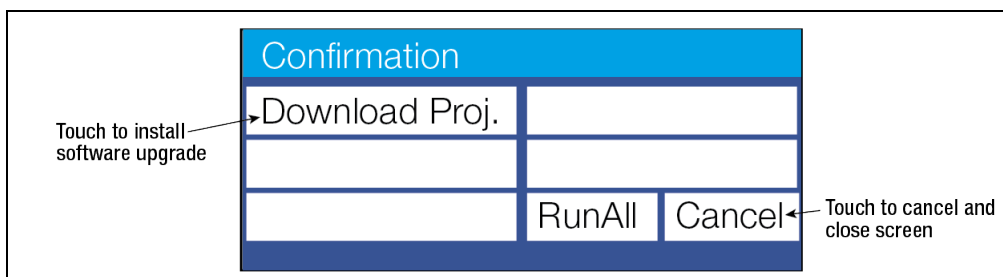

Figure 23. FCC Software Upgrade Screen
4. When the Confirmation screen displays, touch the **Download Proj.** button to install the software upgrade (see Figure 23).